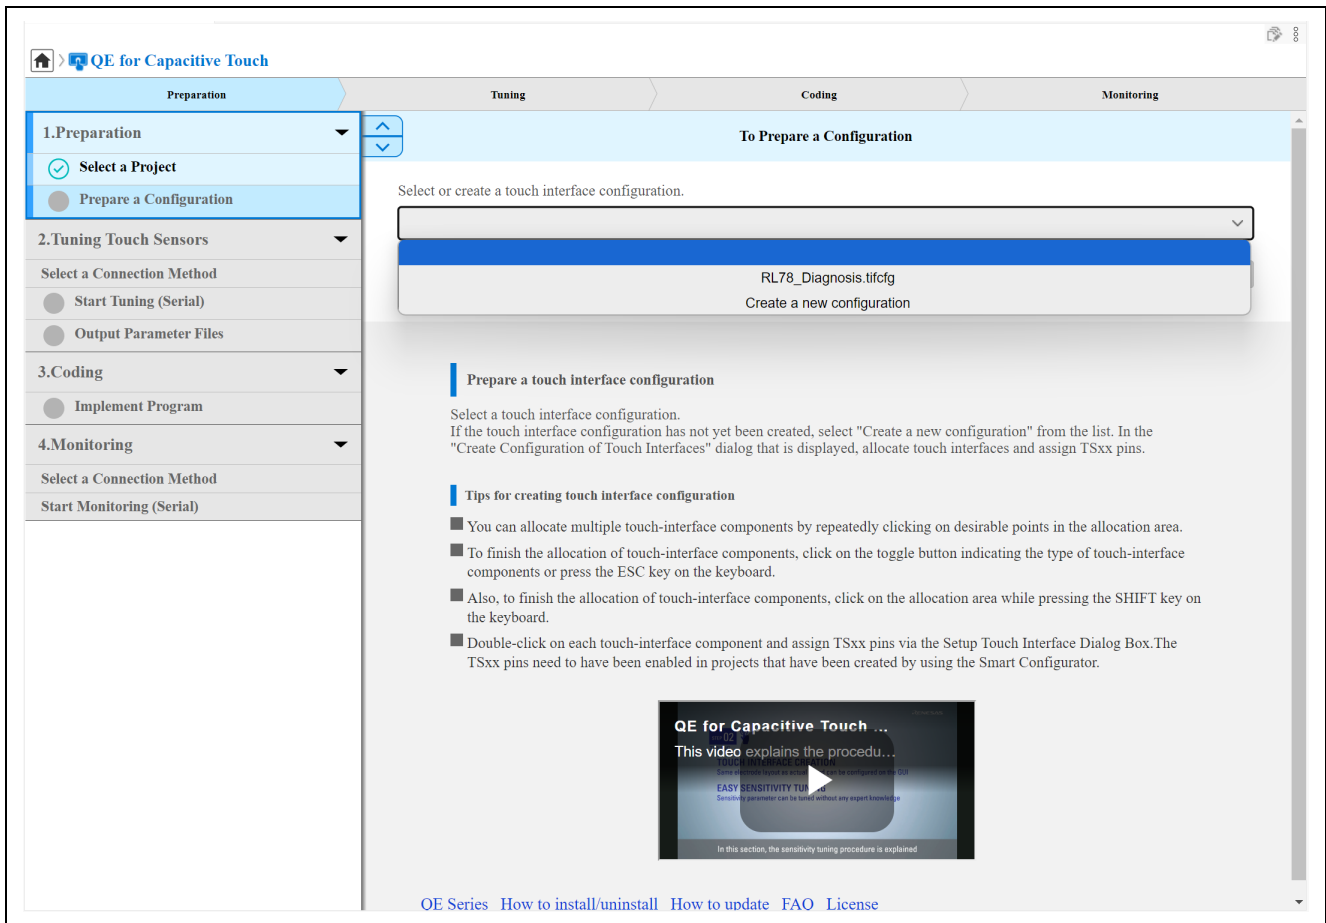

Figure 6-21 [Prepare a Configuration] in Cap Touch Workflow (QE) (RL78)
10. Open [Renesas Views] > [Renesas QE] > [Cap Touch Workflow (QE)]. As shown in Figure 6-21, click [Prepare a Configuration] and select an existing configuration or create a new configuration.